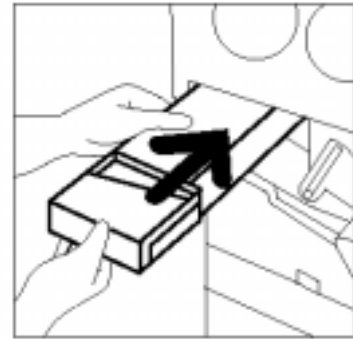

Figure 19: Inserting the new Dry Ink Waste Container
- 7 Align the new Dry Ink Waste Container with the arrow on the copier/printer, and slide the Dry Ink Waste Container into the copier/printer, as illustrated in Figure 19.